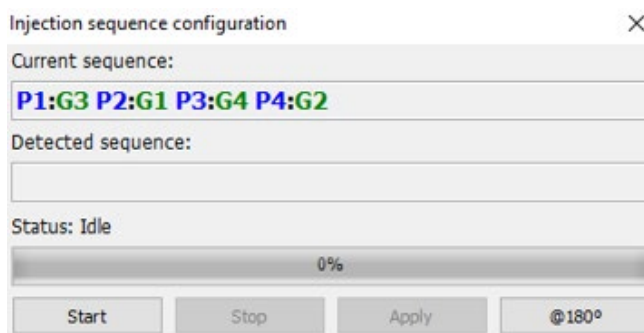

Fig. 13 Automatic configuration of the injection sequence
- **Configuration** – the new window (Fig. 13) allows automatic checking and automatic change of the gas injection sequence. Each time the button "@xx" button is pressed, the injection sequence timing will be advanced by a given angle of "xx" with respect to the current setting. This operation accounts for the real order of petrol injectors and configuration of cylinder banks. If the "@xx" button is inactive, it means that the controller did not detect the order of petrol injectors or the engine is off, or, it is a sequential injection engine,